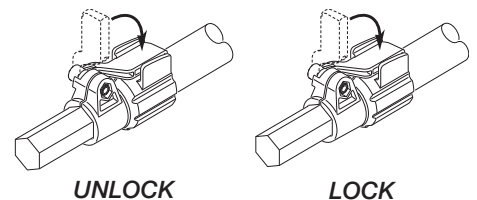

Figure 11 - Extending Telescopic Pole
1. To extend the pole, unlock the clamping lever as shown in Figure 11. Pole will slide freely.
3. To lock pole in position, tighten clamping lever as shown in Figure 11.